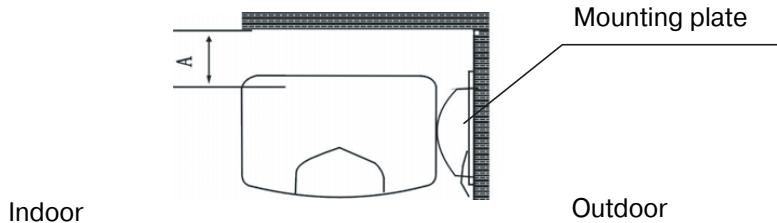

Figure 7. Air Curtain Installation on the mounting plate.
- f) Install Air Curtain on the mounting plate according to Figure 7.